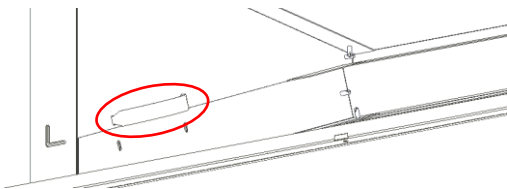

FIGURE 7– Retaining Clip Location
- Remove filter retaining clips from unit, slide the filter and reinstall the retaining clip. See Figure 7